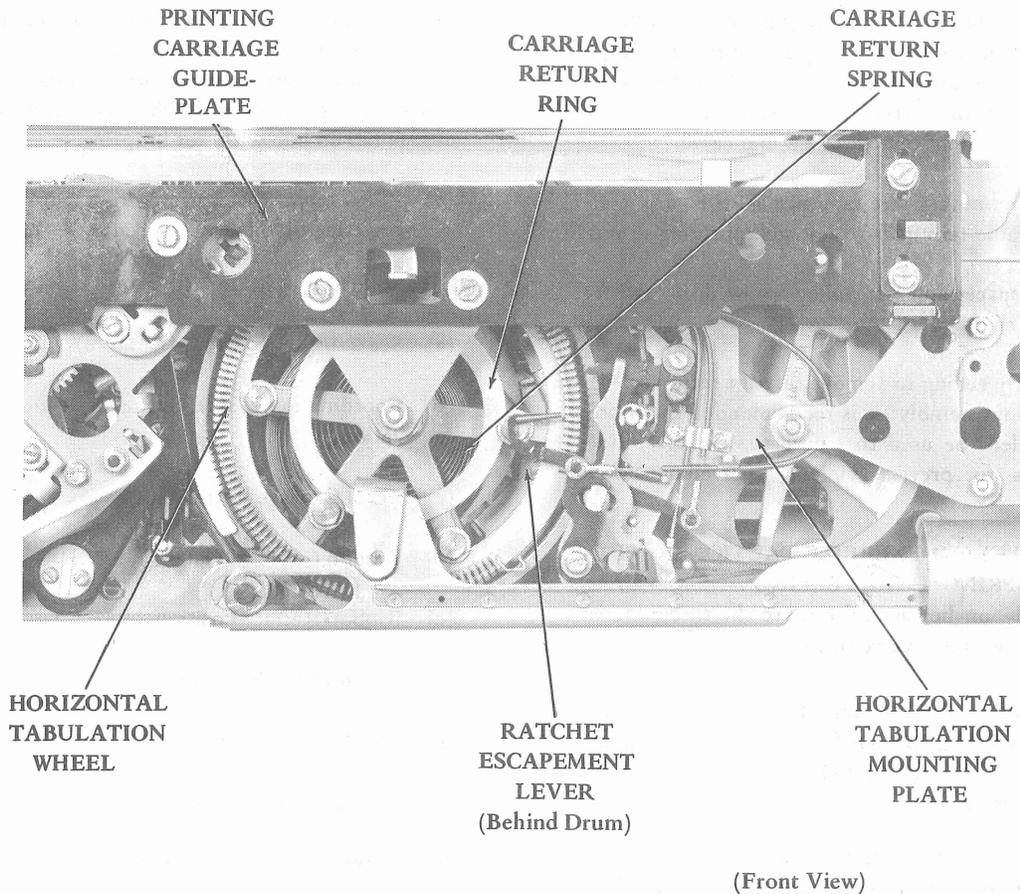

Figure 23 - Wide Platen Unit Spacing Drum Assembly
2.52 To remove the carriage return spring from the wide platen unit spacing drum assembly (Figure 23), proceed as follows: